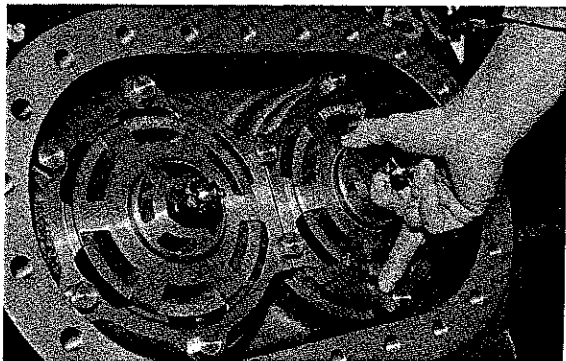

Fig. 53 How to remove discharge valve assembly
- d) Pull out unloader piston (1) using the eyebolt supplied in the hand tool kit, or push in the unloader piston with your thumb and release it quickly so that it is pushed out by the expanding action of the spring (4).
- e) Pull out push rod (5) as shown in Fig. 53. Spring (4) and washer (3) are attached to the push rod with a screw (2); do not take them apart.